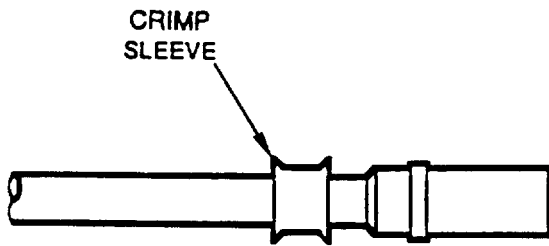

Figure 11. Crimp Sleeve
j. After correctly locating crimp sleeve perform crimp using tooling, specified in Table 1 (Figure 11).